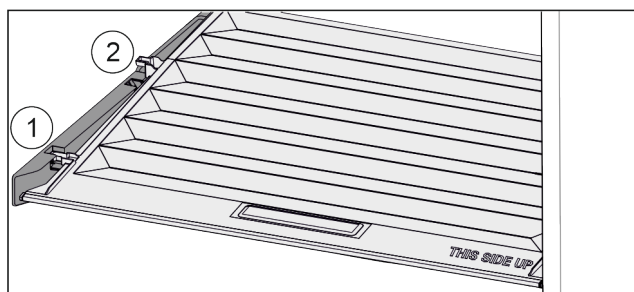

Fig. 27
- Pull the lid up at the front to the opening in the retaining parts Fig. 27 (1).
- Lift from the back and pull it up and out Fig. 27 (2).